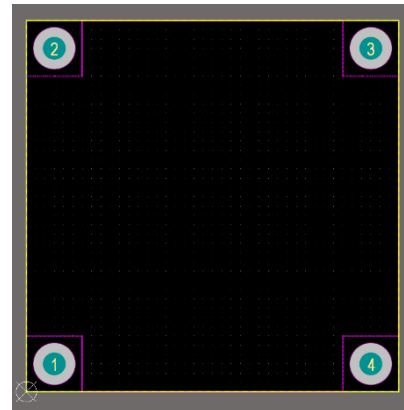

Figure 14: Defining keep-out layer
- In order to avoid routing in the neighborhood of the screw heads, a keep-out layer needs to be defined for these holes. To do this, select the **Keep-Out Layer** as the working layer. Then select **Place** → **Keepout** → **Track**. Draw a keep-out track as shown in Figure 14.